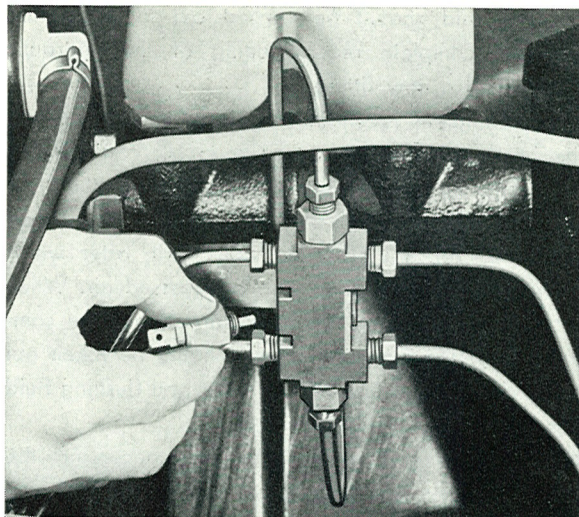

Fig. 5-54. Removing the warning switch
1. Disconnect the electrical cable and screw out the warning switch (Fig. 5-54) so that the pistons return to normal position.
2. Clean round the cap on the brake fluid container, also round the contact on the warning valve. Remove the warning switch, see Fig. 5-54. Fill, if necessary with brake fluid to the "Max" mark on the container.